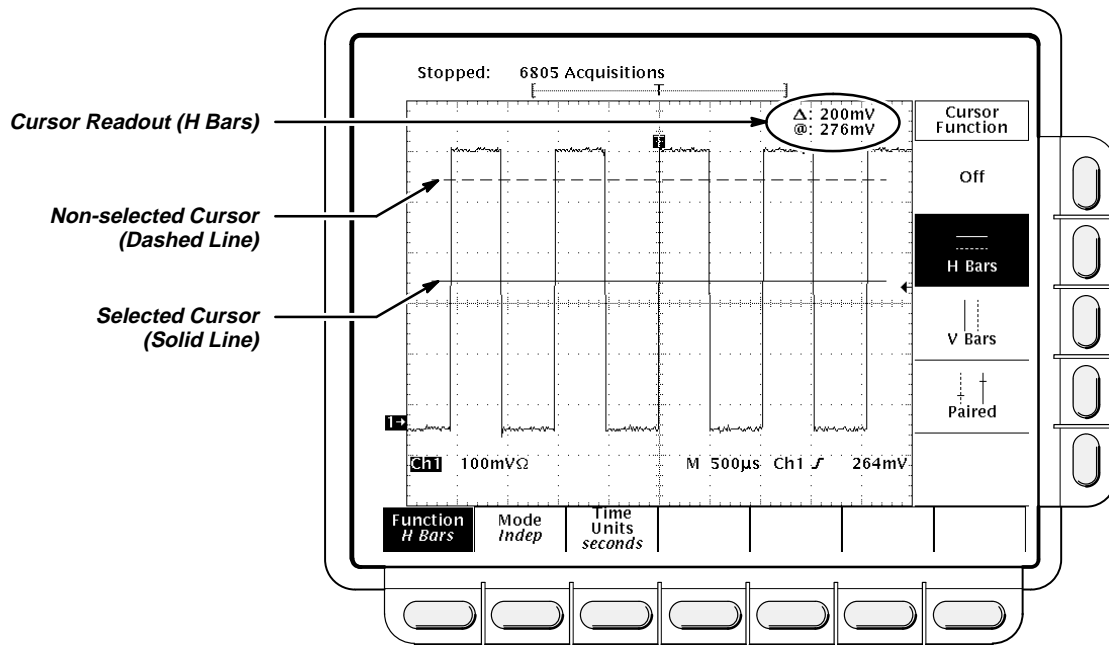

Figure 3-6: H Bars Cursor Menu and Readouts
- **H Bars:** the value after the Δ shows the voltage difference between the cursors. The value after the @ shows the voltage of the selected cursor relative to ground (see Figure 3-6).
To take cursor measurements, press **CURSOR** to display the Cursor menu (Figure 3-6).